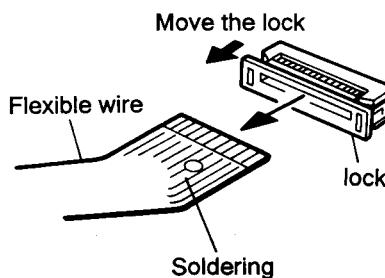

Fig. 4-11
6. Disconnect the flexible wire connected to the connector on the CD mechanism control P. C. board (See Fig. 4-11).
**CAUTION:** Whenever the flexible wire is disconnected, be sure to remove the soldering in advance as shown in Fig. 4-11. Otherwise, the CD mechanism assembly can possibly be damaged.